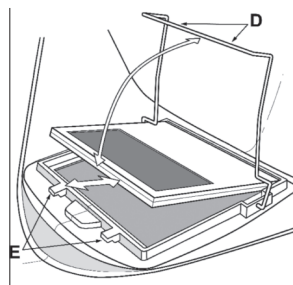

Figure 3
**Fitting New Cartridge:** Take the new shade cartridge and pass the potentiometer cable under the wire loop before placing the cartridge into its retaining frame inside the helmet. Lower the wire loop and ensure the front edge of the loop (D) is properly retained under the retaining lugs (E) as shown in (figure 3).